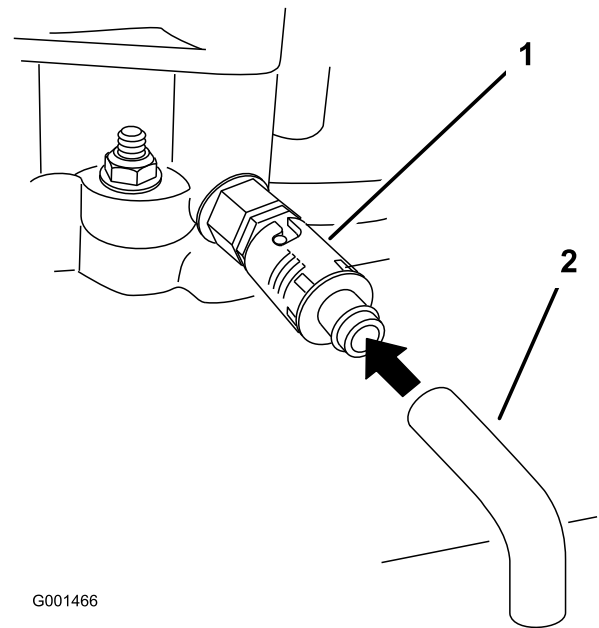

Figure 33
6. Place a pan below the drain hose. Rotate oil drain valve to allow oil to drain (Figure 33).
8. Remove the drain hose (Figure 33).